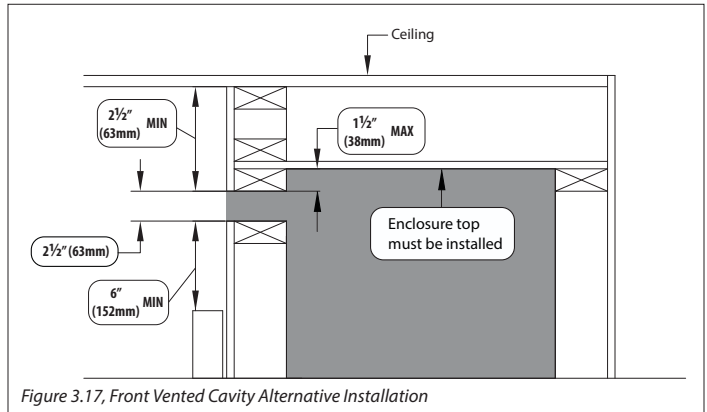

Figure 3.17, Front Vented Cavity Alternative Installation
- Figure 3.17 shows an alternative installation method where you cap off the fireplace cavity so the air discharge opening can be located further down the fireplace chamber. If you cap the fireplace cavity off, it cannot have any vent pipe running through the top with a ceiling firestop. This installation method can alleviate any possible concerns with paint discoloration from heat or dust.